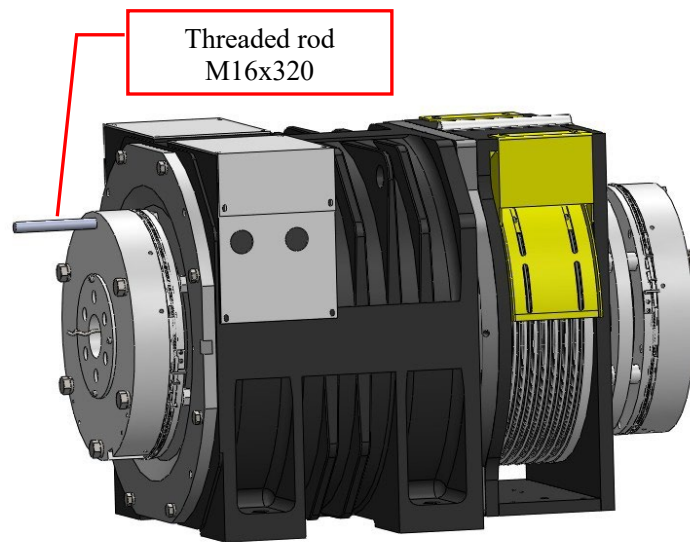

Figure 44 Install Threaded rod
5. Then install the threaded rod M16x320 into the hole. See Figure 44.